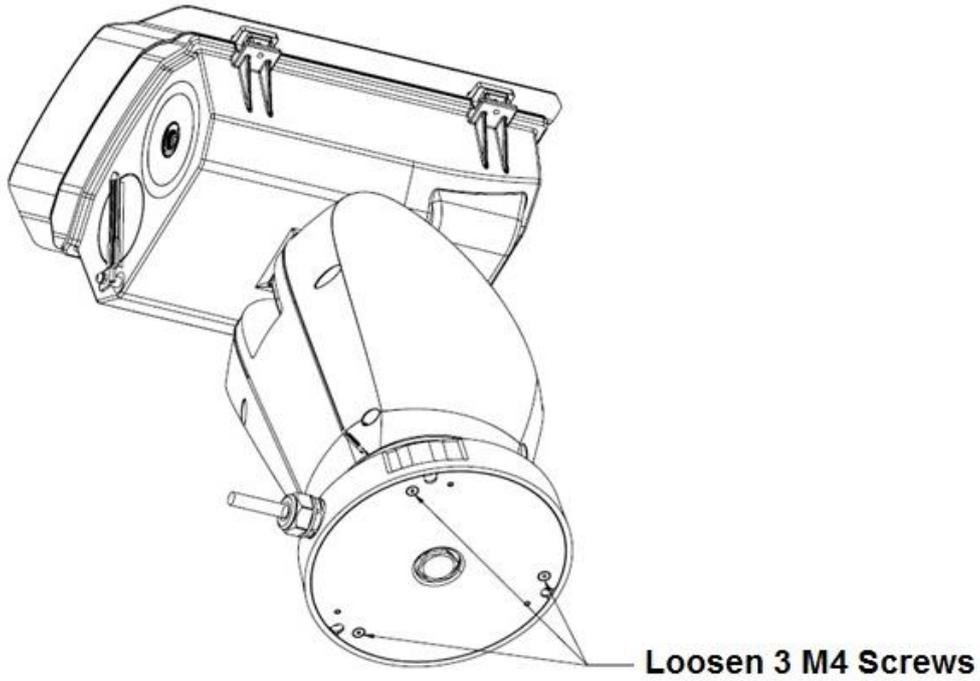

Figure 1-5
1. Use inner hex wrench to unscrew 3 screws on the bottom, see Figure 1-5 for details.